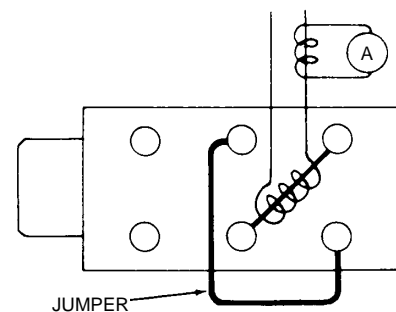

Figure 25.
9. Connect another two phases in series as shown in Figure 25 and retest.